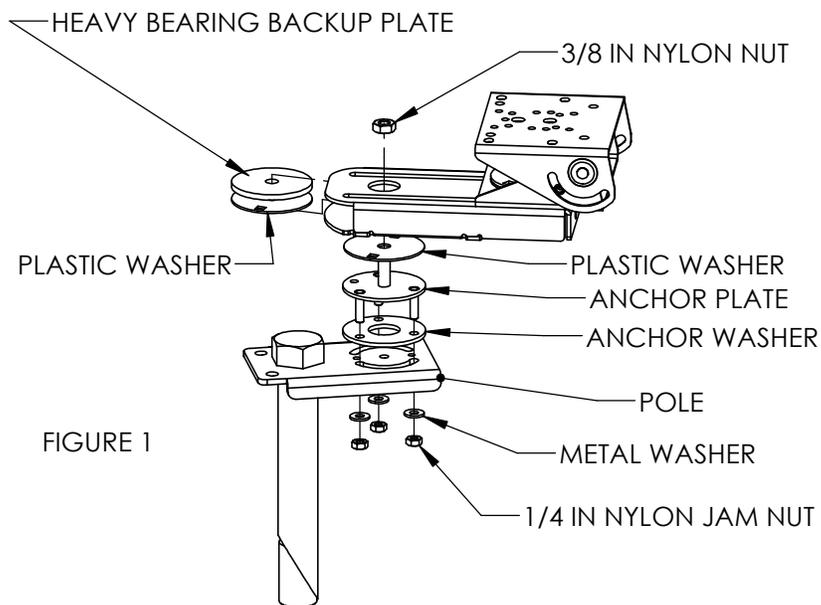
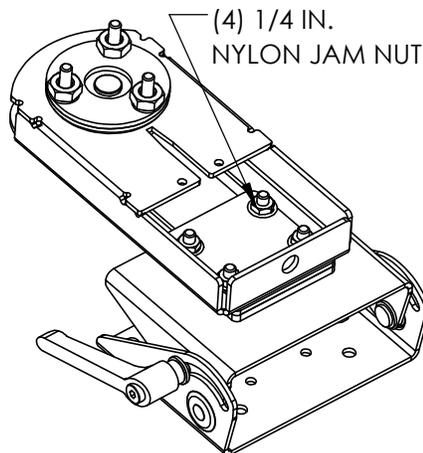

FIGURE 1
FIGURE 2
1. Remove the (3) 1/4 in. nylon jam nuts from the bottom of the device.
2. Stack the plastic washers and metal washer as shown in Figure 1.
3. Secure the Quad-Motion device using the (3) 1/4 in. nylon jam nuts removed in step 1.
4. Tighten the (3) 1/4 in. nylon jam nuts to allow the desired rotational resistance of the arm.
5. Adjust the torque on the (4) 1/4 in. nylon jam nuts (Figure 2) on the slide to provide the desired sliding resistance.